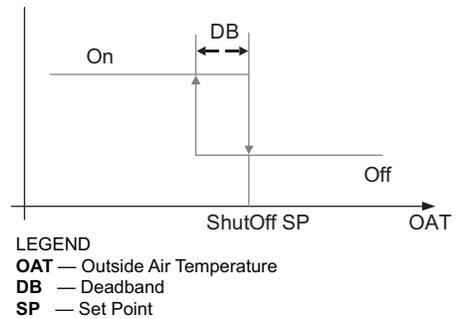

Fig. 66 – Hysteresis Settings
Hysteresis setting (DB) defaults to 2°F (-16.6°C). See Fig. 66.